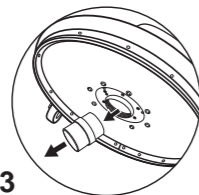

Fig.3
3. Esta máquina incluye un tubo de plástico localizado en la parte de abajo del plato, retire esta pieza jalándola hacia afuera. (Fig. 3)
3. This machine includes a plastic tube located at the lower part of the plate that avoids brush skirt damage during transportation. Remove this piece by pulling it outwards (Fig. 3).